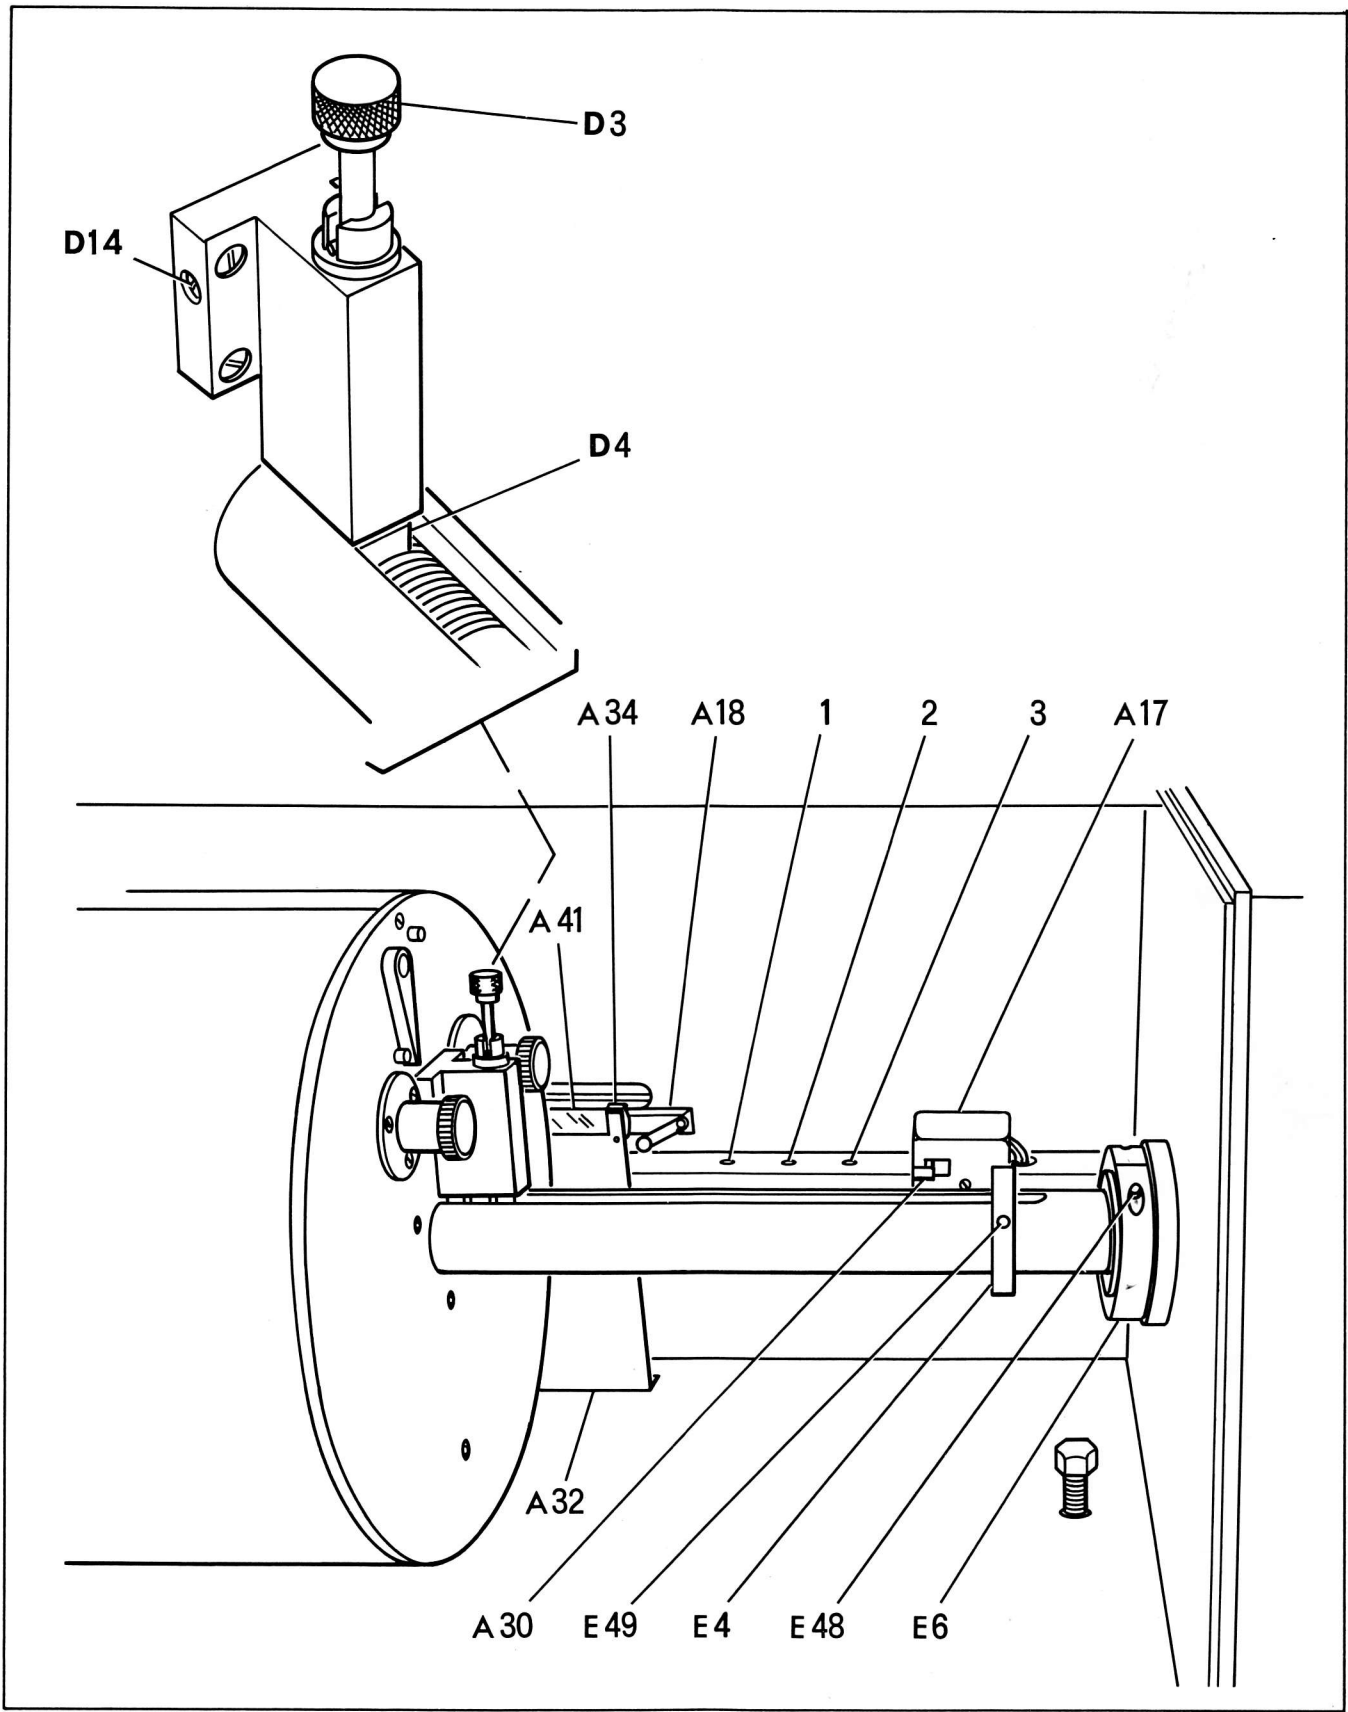

FIGURE 2
3. Remove the tube that holds the plunger (D4, Fig. 2) up during shipment by unscrewing knurled knob (D3) and slipping the tube off, then replace the knurled knob and tighten firmly.
9. Move the drum to right hand limit of its travel, engage the plunger (D4, Fig. 2) and rotate the drum so the piece of paper attached at its edge is in line with the aperture and rotate the galvanometer centering knob until the spot is visible on the paper. Move the lamp adjusting rod (B7) inward or outward and rotate for sharpest vertical focus and clamp. If sharp focus cannot be obtained in about mid-range, move the galvanometer
21. Turn the drum motor on. The drum motor switch has two "on" positions and a center "off" position. In the up or "motor AC" position the drum motor is connected to the 110 volt 60 cycle AC line, in the down position the drum motor is connected to the "inverter" (A54, Fig. 2) receptacle on the back panel. The output of a well regulated 110 volt 60 cycle 4 watt converter can be connected to these terminals when operating the recorder on a 12 volt DC system. If it is desired to use an inverter with an AC receptacle rather than the "inverter" receptacle on the back panel for the drum-drive motor, plug the AC line cord directly into the inverter and place the drum motor switch in the "motor AC" position. The AC - DC switch remains in the DC position.
25. A friction system is provided to preload the drum gearing and prevent free rotation due to unbalance as paper is transferred from supply to takeup roll. This friction can be adjusted by loosening locking screw (E48, Fig. 2) in ring (E6) and turning the ring clockwise. Retighten locking screw (E48) when desired friction is obtained. The proper friction is obtained when the drum will not rotate freely with a new spool of paper in the drum. Excess friction will overload the motor and cause excessive wear in the gearing system.